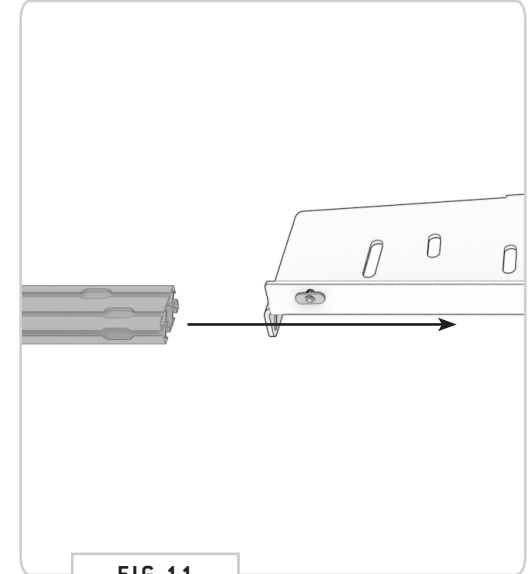

FIG 11
4.2 Crossbar Install: Now, slide the **Crossbar** onto the **Crossbar Fairing Bracket**. You'll have to straighten each **T-Nut** as you go to get it to feed into the crossbar correctly (FIG 11 + 12).